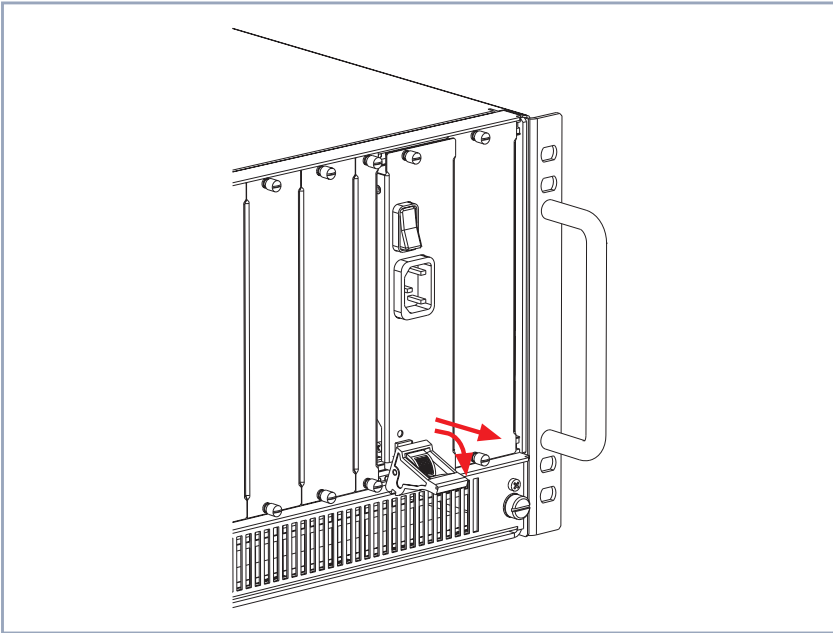

Figure 1-5: Replacing X8A-PS
- Push the injector/ejector handle (see figure 1-5, page 24) further down until the power supply unit comes out of its position.